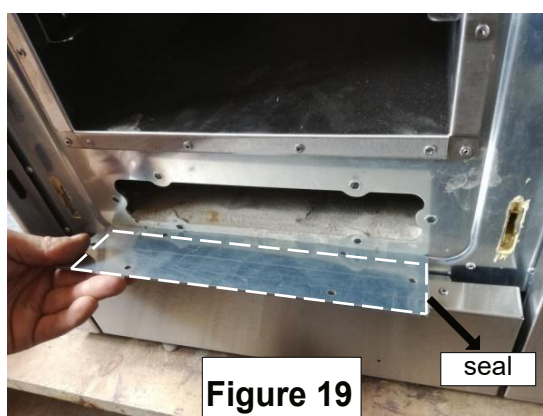

Figure 19
- clean the area under the oven using a cooker cleaning tool (23) (*Figure 19*). After thorough cleaning, mount back the cleaning hatch lid and the oven door into their positions.